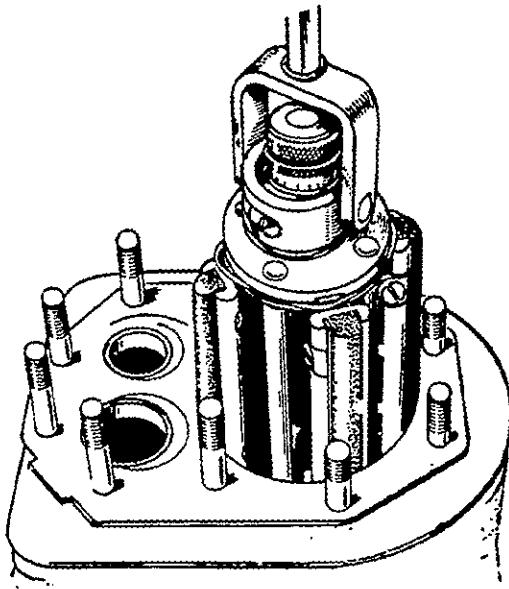

FIGURE 75. HONING CYLINDER
1. A hone can be used to reboore a cylinder, Figure 75. Remove stock to 0.002 inch (0.051 mm) less than finished bore with coarse hone (100 grit), then complete honing with finish hones (300 grit).